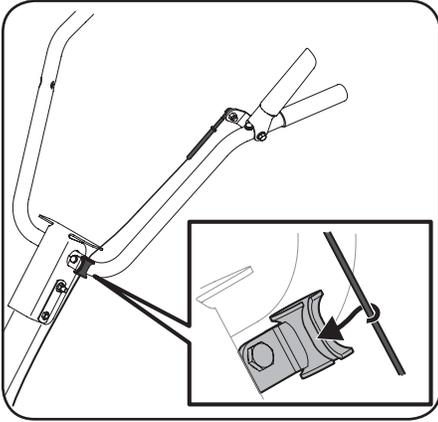

Figure 3-7
5. When the handle is in place, insert the clutch cable into the cable guide on the handle as shown in Figure 3-7.